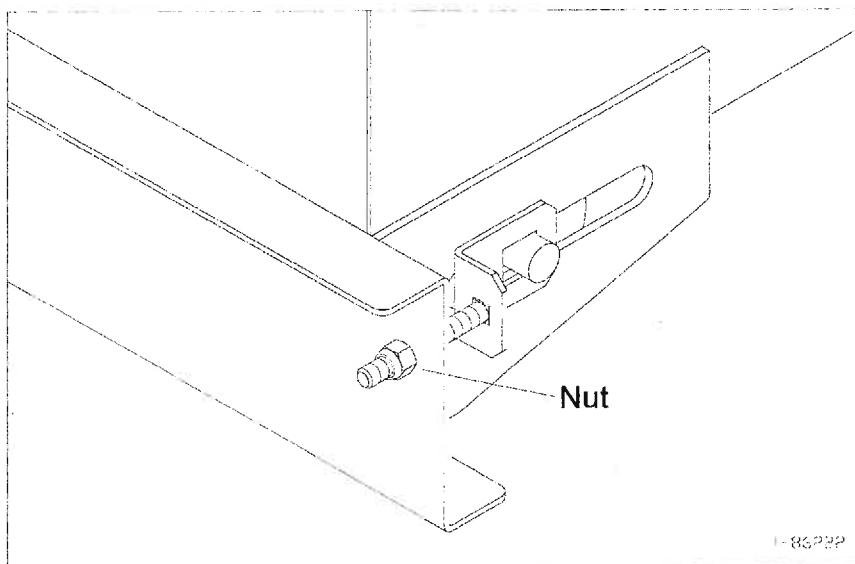

Figure 4A - Adjusting the Floor Apron Chain for Proper Tension
- Periodically check the floor apron chain for proper tension/tightness (refer to Figure 4A).
- b) Use a 9/16" wrench to tighten the adjustment nut on the lower left/right front of the spreader box as shown in Figure 4A. Observe the chain positioning with respect to the floor/apron. *Make sure that the chains on each side of the apron are equally taut.*